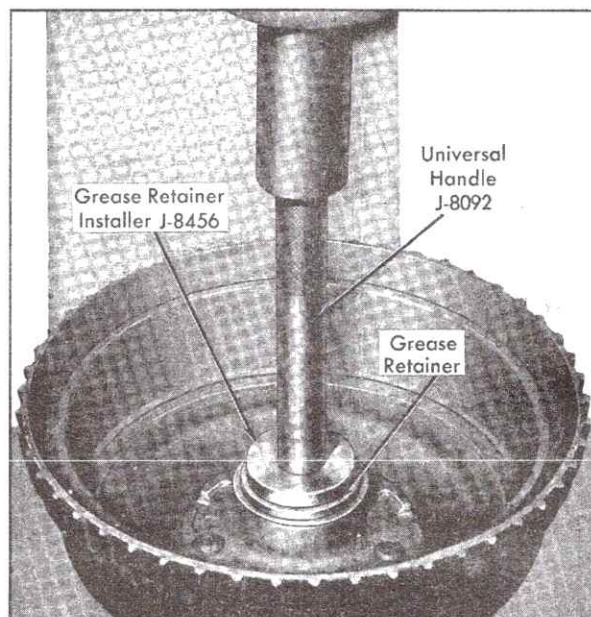

Fig. 10-16 Installing Grease Retainer
6. Install new grease retainer, using Front Wheel Hub Grease Retainer Installer, J-8456, and Handle J-8092. Use arbor press to install grease retainer in hub, Fig. 10-16.